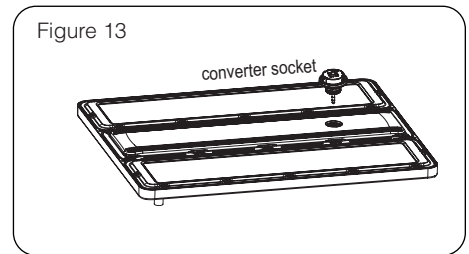

Figure 13
Step3. Different sensor adapters can be added to meet the need for compatibility with more sensors. (Figure 13)